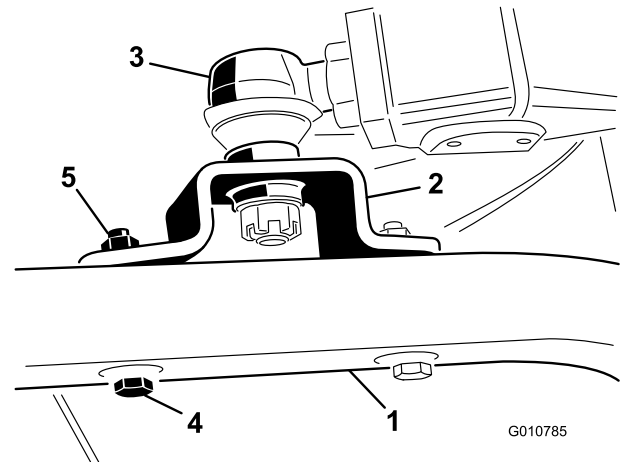

Figure 6
4. Secure the ball joint mounts to each castor arm with 2 capscrews (7/16 x 3 inches) and flange nuts (7/16 inches) (Figure 6).
5. Tighten the large jam nut that secures the ball joint to the lift arm (Figure 6).